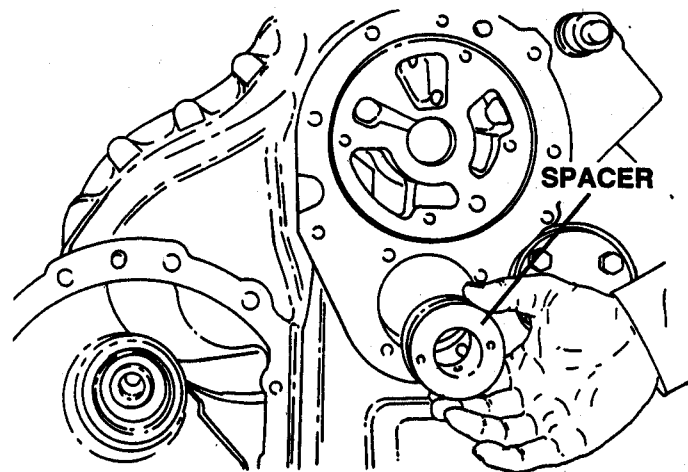

Figure 16.
2. Remove the mainshaft end spacer (Figure 16). Remove and discard the two o-rings. **DO NOT** install new o-rings at this time. Install the spacer.